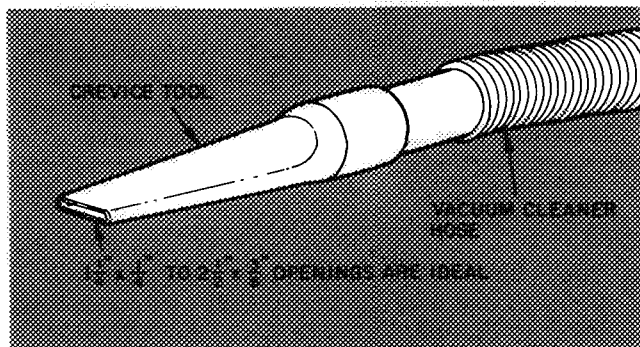

Fig. 11 — Crevice Cleaning Tool
3. Clean coil using vacuum cleaner and its crevice tool (see Fig. 11). Work crevice tool *vertically* making sure tool only touches dirt on fins. To prevent fin damage, do not “scrub” fins with tool or move tool horizontally.